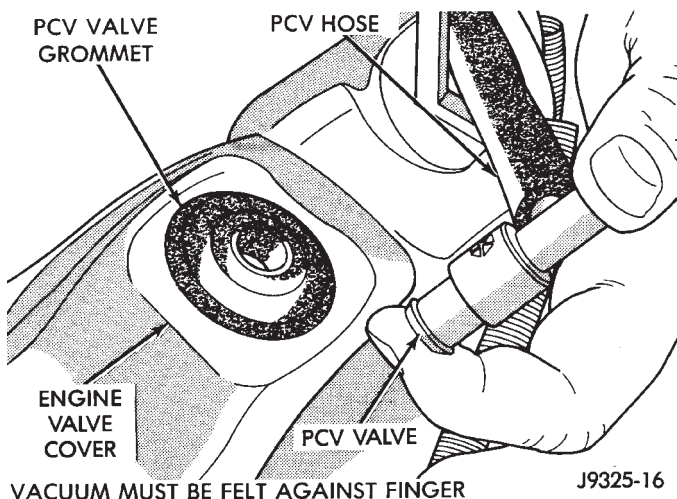

Fig. 11 Vacuum Check at PCV Valve—Typical
(1) With engine idling, remove the PCV valve from cylinder head (valve) cover. If the valve is not plugged, a hissing noise will be heard as air passes through the valve. Also, a strong vacuum should be felt at the valve inlet (Fig. 11).